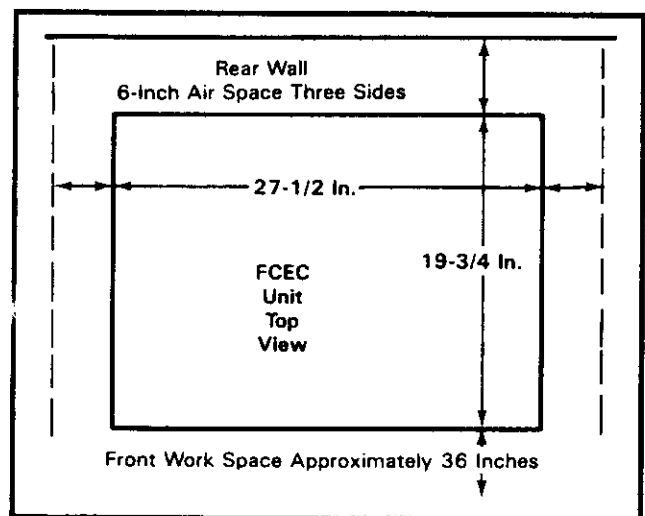

FIGURE 1
04.21 The minimum floor and maintenance space that is required for installation of the PERCEPTION II system, is shown in Figure 1. The use of an expansion cabinet requires no additional floor space since the unit is stacked on top of the basic cabinet.